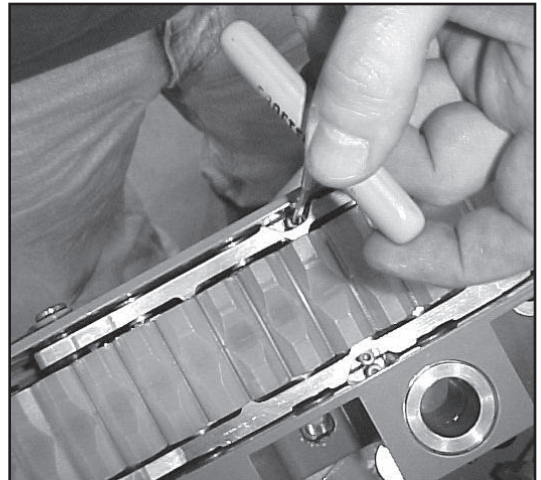

Figure 4
4. Remove two idler track retaining screws (Figure 4)